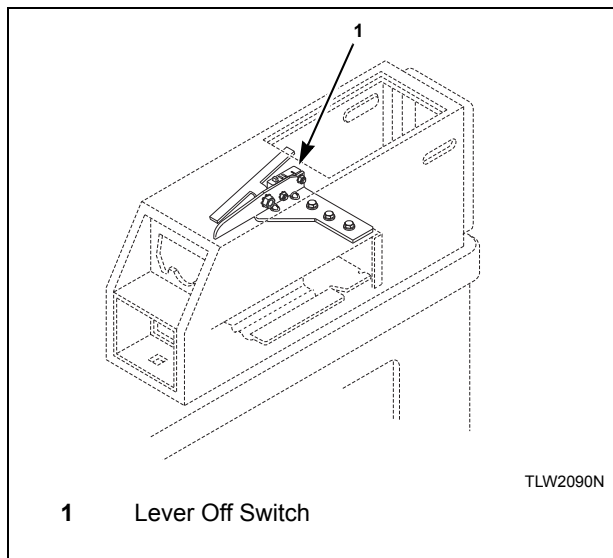

Figure 27
**NOTE:** During coin slide installation, make sure activation lever is up and off the switch. Refer to *Figure 27*.